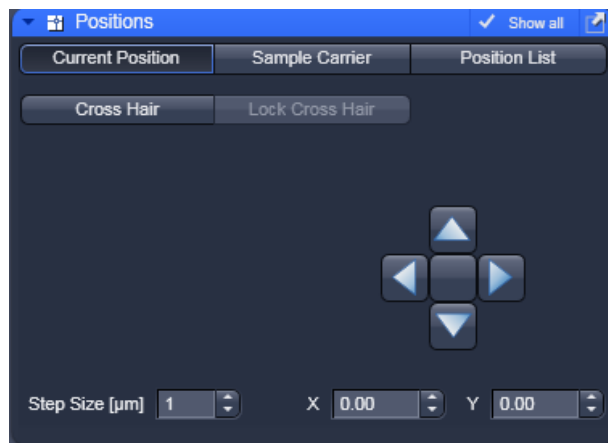

Fig. 293 Current Positions panel
- Click on the **Position** tab to open the **Positions** panel (Fig. 293). Click again to close the panel.
- Click on the **Current Position** tab to open the **Current Position** panel (Fig. 293).